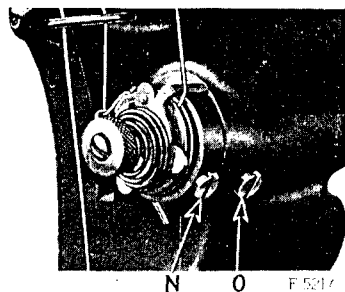

Fig. 21. Adjustments on Thread Controller
For more controller action on the thread, loosen the stop screw (N, Fig. 21) at the right of the tension and set the stop lower, and for less action set the stop higher, then tighten the stop screw (N).
To strengthen the action of the controller spring on the thread, loosen the tension stud screw (O, Fig. 21) at the right of the stop screw and turn the tension stud slightly to the left with a screw driver, or to lighten its action turn to the right and retighten the tension stud screw (O).